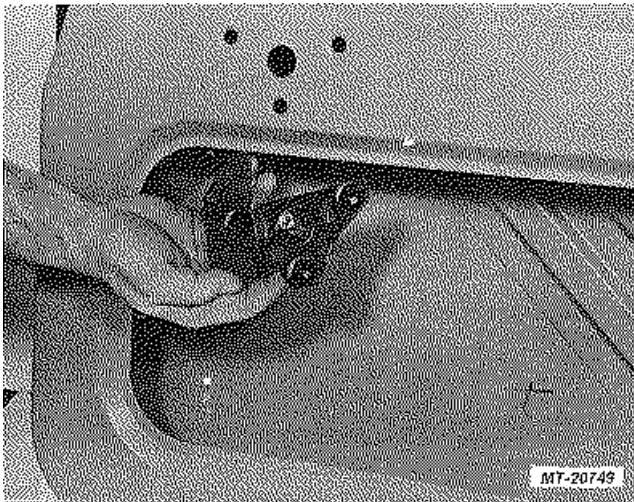

Fig. 21 Removing Remote Control Assembly
4. Remove three socket head screws and detach remote control from inside of door (Fig. 21).